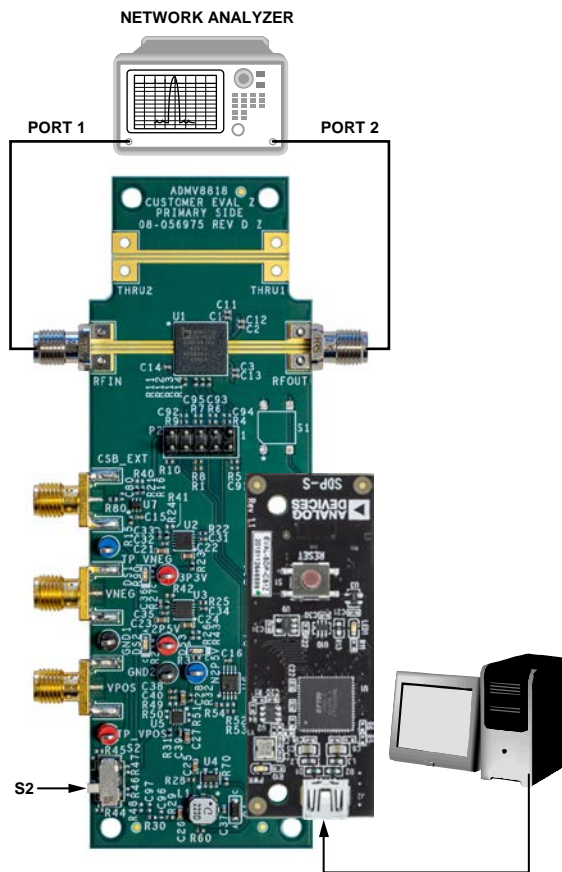

Figure 2. Lab Bench Setup
To power the ADMV8818-EVALZ using the 5 V USB supply, slide the S2 switch downward (as shown in Figure 2) to power the on-board negative voltage generator and LDO regulators. Alternatively, the ADMV8818-EVALZ can be powered externally by sliding the S2 switch upward and then connecting power supplies to the VPOS and VNEG Subminiature Version A (SMA) ports or test points. The applicable voltage range for the positive input VPOS is between 3.5 V and 5.5 V, and the applicable voltage range for the negative input VNEG is between -5.5 V and -2.7 V.
Figure 2 shows an example lab bench setup for the ADMV8818-EVALZ. To observe the filter response from the ADMV8818-EVALZ, connect the RF input (RFIN) and RF output (RFOUT) ports to a network analyzer (or a similar instrument). Typically, RFIN and RFOUT are connected to Port 1 and Port 2 on the network analyzer, as shown in Figure 2.
1. Connect the RFIN and RFOUT ports to a network analyzer (or a similar instrument). Typically, RFIN and RFOUT are connected to Port 1 and Port 2 on the network analyzer, as shown in Figure 2.
3. On the ADMV8818-EVALZ, slide the S2 switch downward (as shown in Figure 2) to power the ADMV8818-EVALZ from the 5 V USB supply voltage from the PC via the SDP-S.